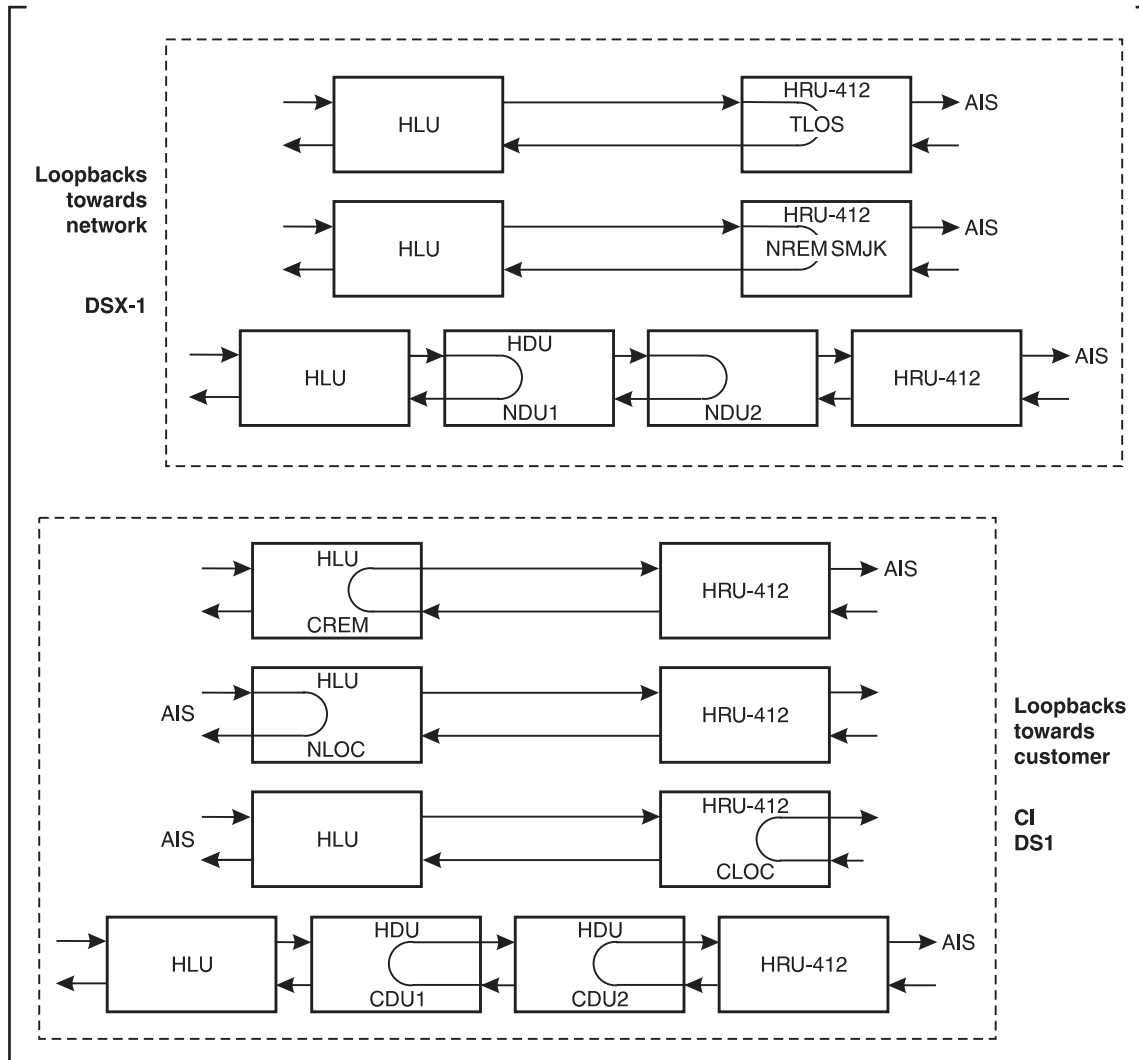

Figure 9. HiGain System Loopbacks
22.1 Loopbacks permit you to perform a isolated diagnostic tests on specific areas of the circuit. The transmitted signal is returned to the sending device after passing through a data communications link or network. This allows you to compare the returned signal with the transmitted signal and to determine if there is a problem with the circuit. Ideally, personnel performing loopback testing are in direct communication with each other in order to correlate messages displayed at both the HRU and HLU during the test. Figure 9 shows the loopback diagram (see Section 13.4, Table 9 for a comprehensive description of loopback messages).
22.4 The Smart-jack loopback shown in Figure 9 is the standard NID metallic loopback. It has two modes of operation as determined by the SAIS user option settings at the HLU (*ENA* or *DIS*). The *ENA* option causes the HRU to transmit the AIS signal towards the NI. The *DIS* option turns off the AIS/NI signal. To send the AIS pattern to the CI during Smart-Jack or NREM loopbacks, set the SAIS to *ENA*.